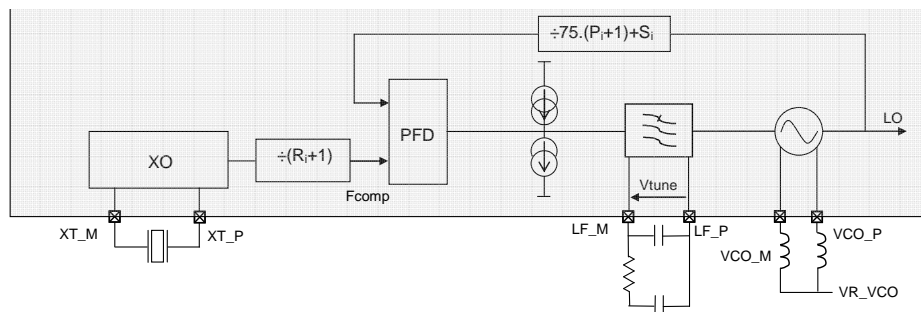

Figure 4: Frequency Synthesizer Description
The crystal oscillator (XO) forms the reference oscillator of an Integer-N Phase Locked Loop (PLL), whose operation is discussed in the following section. Figure 4 shows a block schematic of the SX1211 PLL. Here the crystal reference frequency and the software controlled dividers R, P and S determine the output frequency of the PLL.
Figure 4, the PLL structure comprises three different dividers, R, P and S, which set the output frequency through the LO. A second set of dividers is also available to allow rapid switching between a pair of frequencies: R1/P1/S1 and R2/P2/S2. These six dividers are programmed by six bytes of the register MCPParam from addresses 6 to 11.